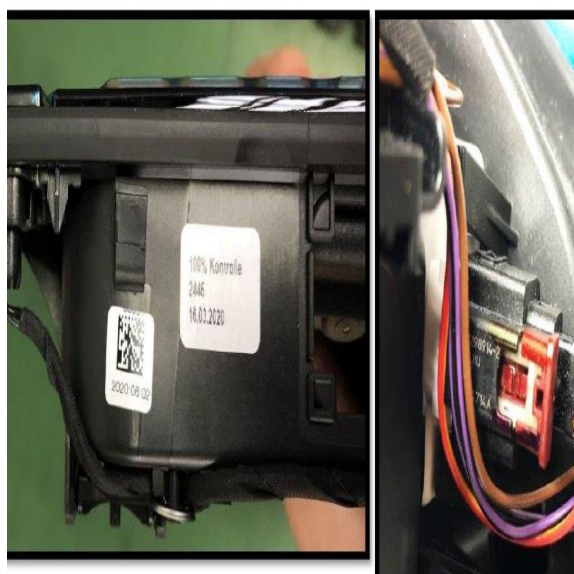

Figure 8: The charging indicator connector pictured is the updated part.
4. To avoid the need for repeat repairs, check whether the charging door supplied by the parts department already has a sealed charging indicator connector. This can be identified on the basis of the QR code sticker and the red line on the connector (Figure 8).